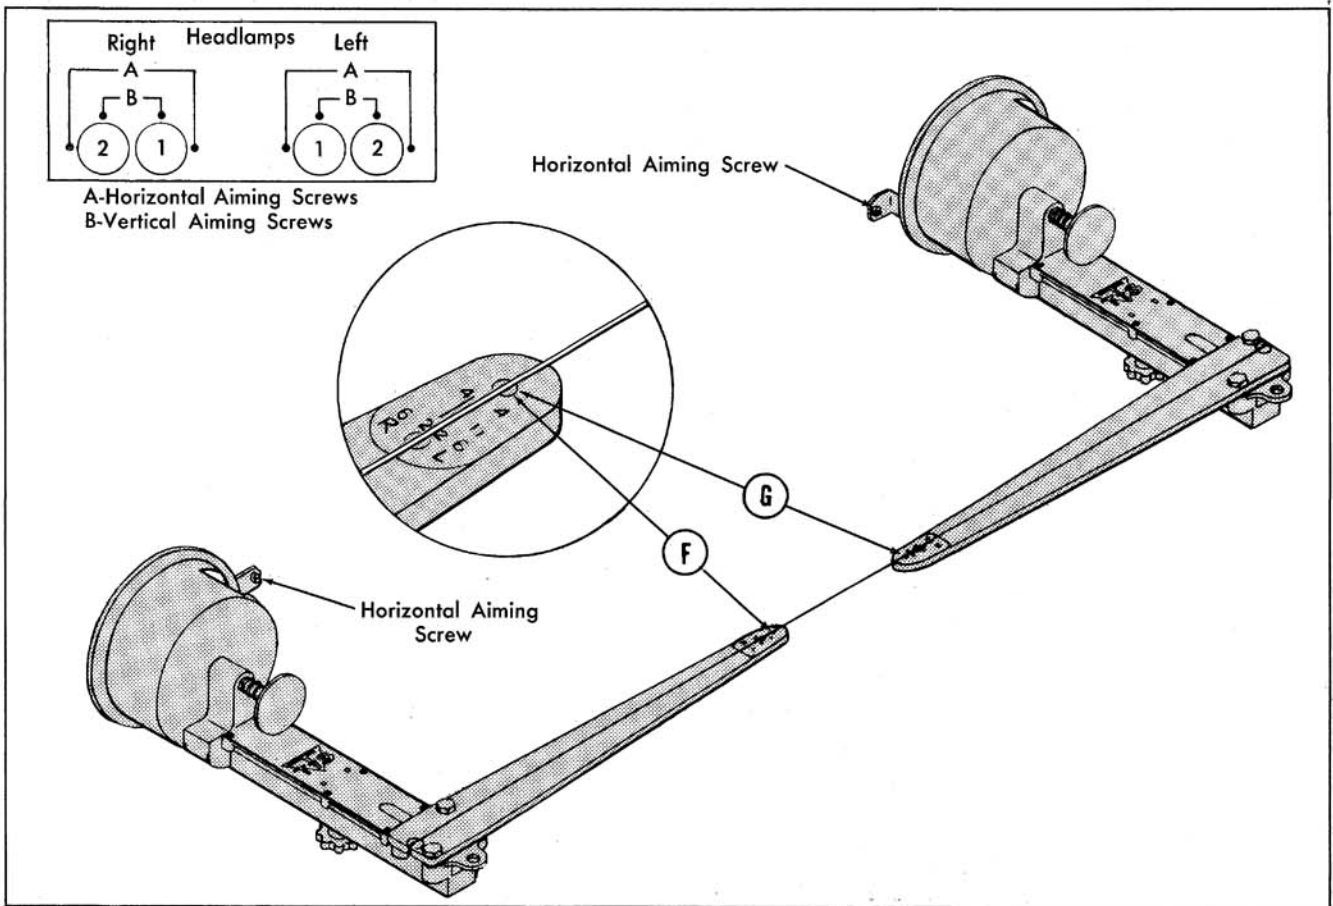

Fig. 13-89 Horizontal Aim
4. Fasten string to RH aimer. Rotate aimers until string just clears "F" and "G". (Fig. 13-89)